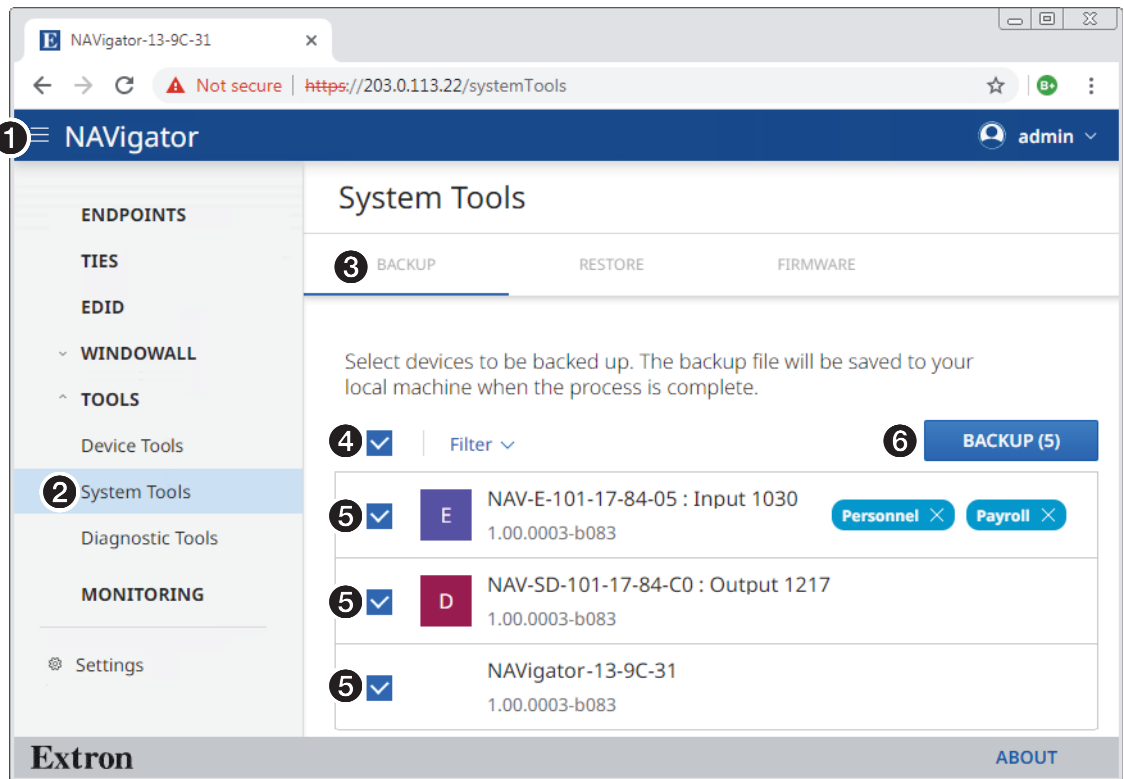

Figure 80. Opening the System Backup Pane
- Click the **Filter** drop-down menu (A) to show only endpoints by specific criteria.
1. If necessary, click the **Menu** icon (see figure 80, 1).